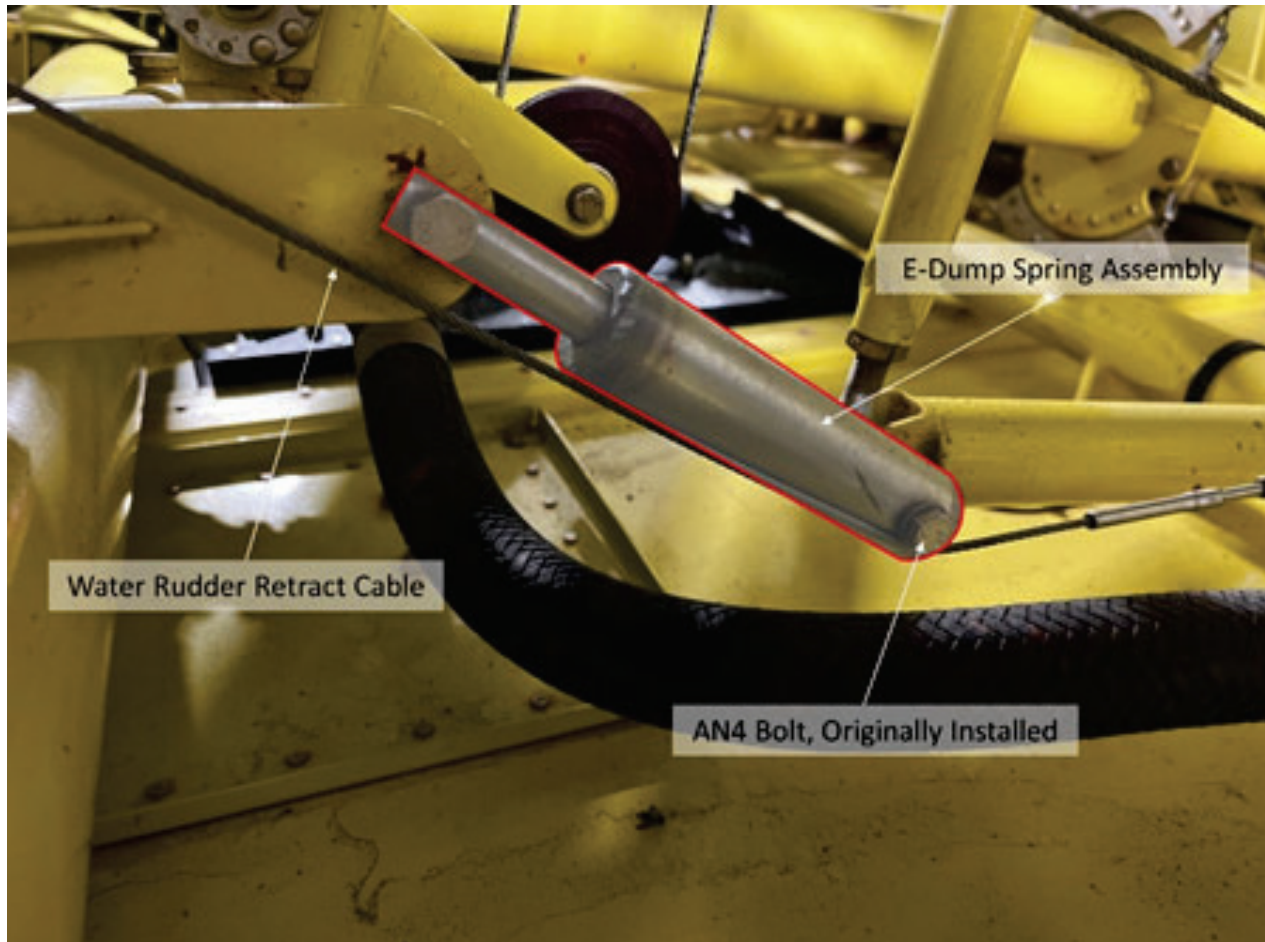

Figure 1 – Example of Interference
3. Replace the originally installed AN4 bolt and MS21044N4 nut at the aft end of the E-Dump Spring Assembly (Air Tractor PN 71134-1) with AN24-36A clevis bolt and MS21083N4 nut and NAS1149F0463P washers as required. Do not overtighten, as doing so may restrict movement of the linkage. Refer to Figures 1 and 2. Cable pulleys and adjacent fuel line may be massaged slightly for additional clearance.